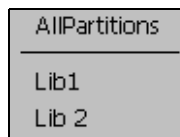

Figure 9-4
2. Tap **Partitions** in the upper right-hand corner of the screen to display the pull-down menu (Figure 9-4).